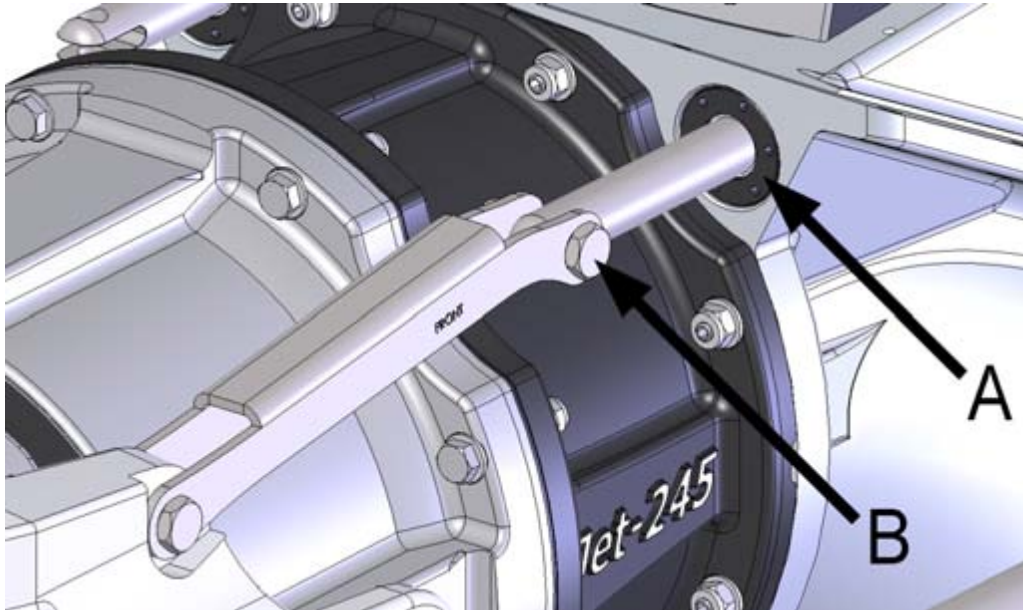

Figure 64. Cylinder rear end seal
The cylinder rear end seal (figure 64, point A) is a wearing part and must be replaced regularly. The replacement can be performed with the cylinder in place.
1. Open the cylinder's connecting rod screw if the cylinder is closed (figure 64, point B).
4. Attach the cylinder's connecting rod screw if the cylinder is installed in place (figure 64, point B).